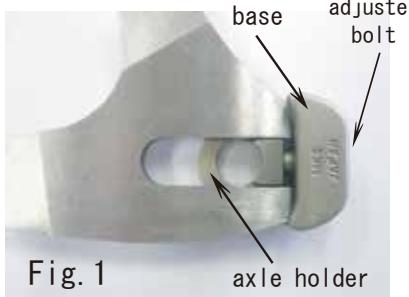

Fig. 1
- 1) Remove tape carefully not to change screw settings and install adjusters onto rear axle with axle holder ring facing down in contact with interior axle locknuts. Be sure to face the marked side MKS JAPAN of the base and square projection of axle holder to the outside of the bicycle. While maintaining original screw settings, slide the rear wheel with adjusters into the frame drop outs. (See Fig. 1) Chain adjusters are preset to locate wheel towards the end of the rear drop outs.
(Rear wheel is omitted from Fig. 1 for clarity)